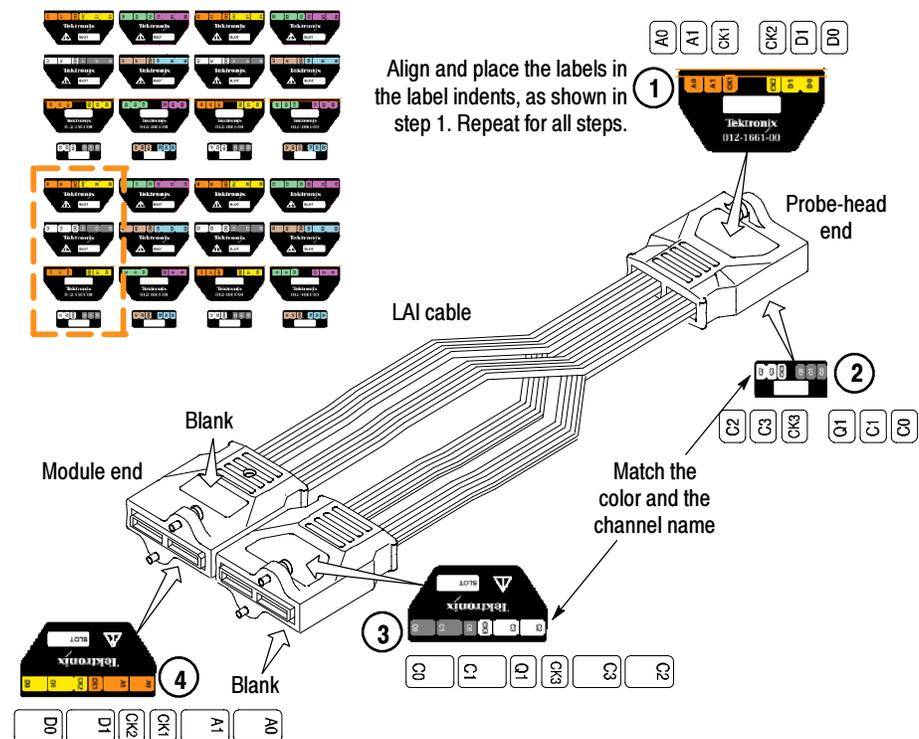

Figure 1-8: Apply LAI labels
2. Follow the steps in Figure 1-8 while attaching the labels.